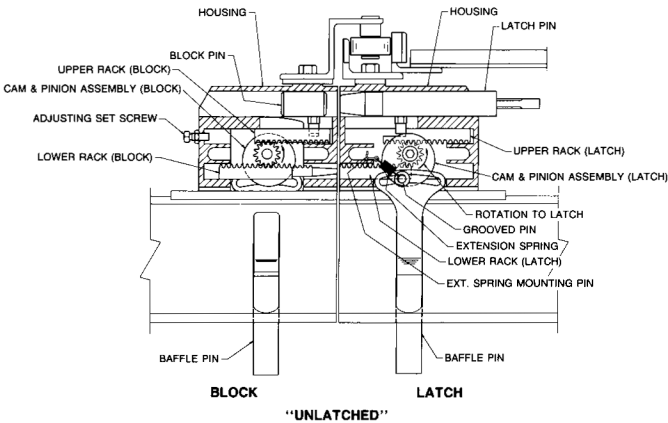

FIGURE 54
9. Refer to Figures 54, 55, 56, and 57 that show the relationship of internal parts.
1. With the latch operating assembly in "unlatch" position, assemble the latch pin and block pin, and upper and lower racks as shown in Figures 54 and 55. In the latch assembly, the latch pin and lower rack should be flush with the front surface of the housing, and the block pin and upper rack should be moved forward to the extreme position. When the pins and racks are properly positioned, insert the cam and pinion assembly to mesh with the upper and lower racks while the grooved pin in the cam is in the low position. Note that the grooved pin should be slightly past center towards the mounting pin of the extension spring, as shown in Figures 54 and 55.